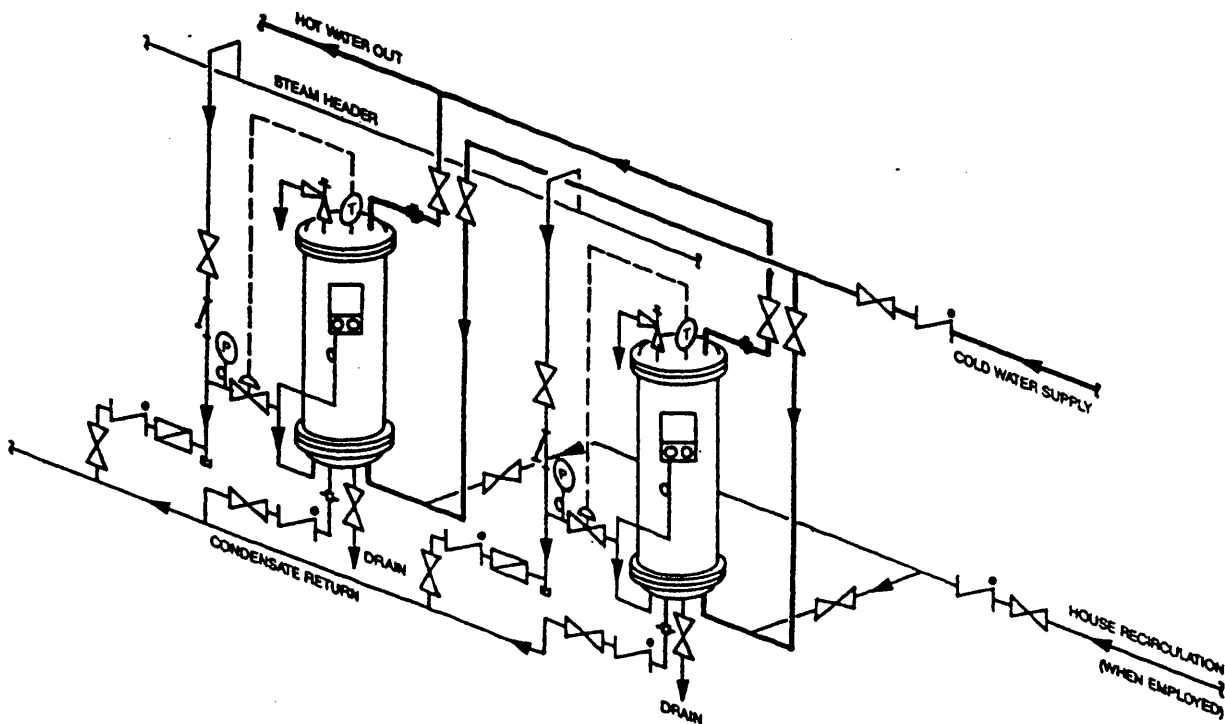

Figure HE-104-3 -- Piping Connections for Parallel Heaters
- Parallel Heaters -- Figure HE-104-3